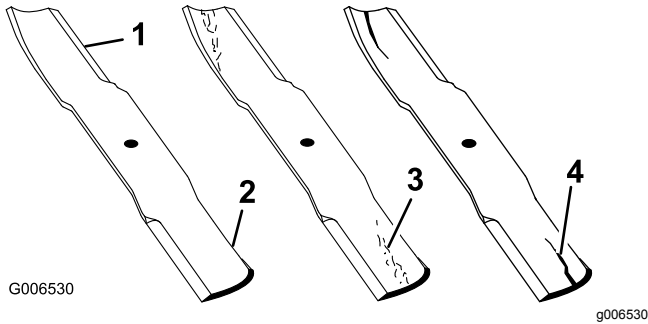

Figure 97
1. Inspect the cutting edges (Figure 97).
4. If you notice any cracks, wear, or a slot forming in this area, immediately install a new blade (Figure 97).